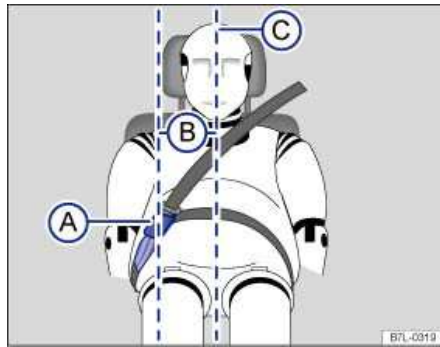

Fig. 69 Positioning of the safety belt extender.
Key to fig. 69:
- Never use a safety belt extender if the distance (B) between the front edge of the safety belt extender buckle (A) and the centerline of the person using the safety belt extender $\Rightarrow$ fig. 69 (C) is less than 6 inches (15 cm).